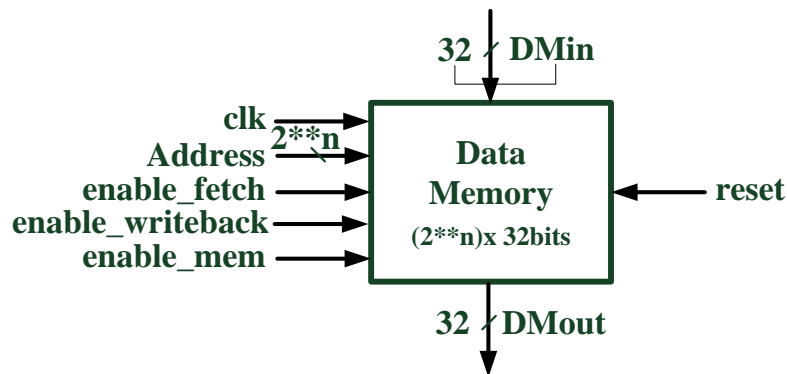

Figure 2-1 Conceptual Diagram of Data Memory
2. (20/250) Add in a $2^{12} \times 32\text{bit}$ data memory as shown in Figure 2-1 into the CPU system designed in HW2_P1.